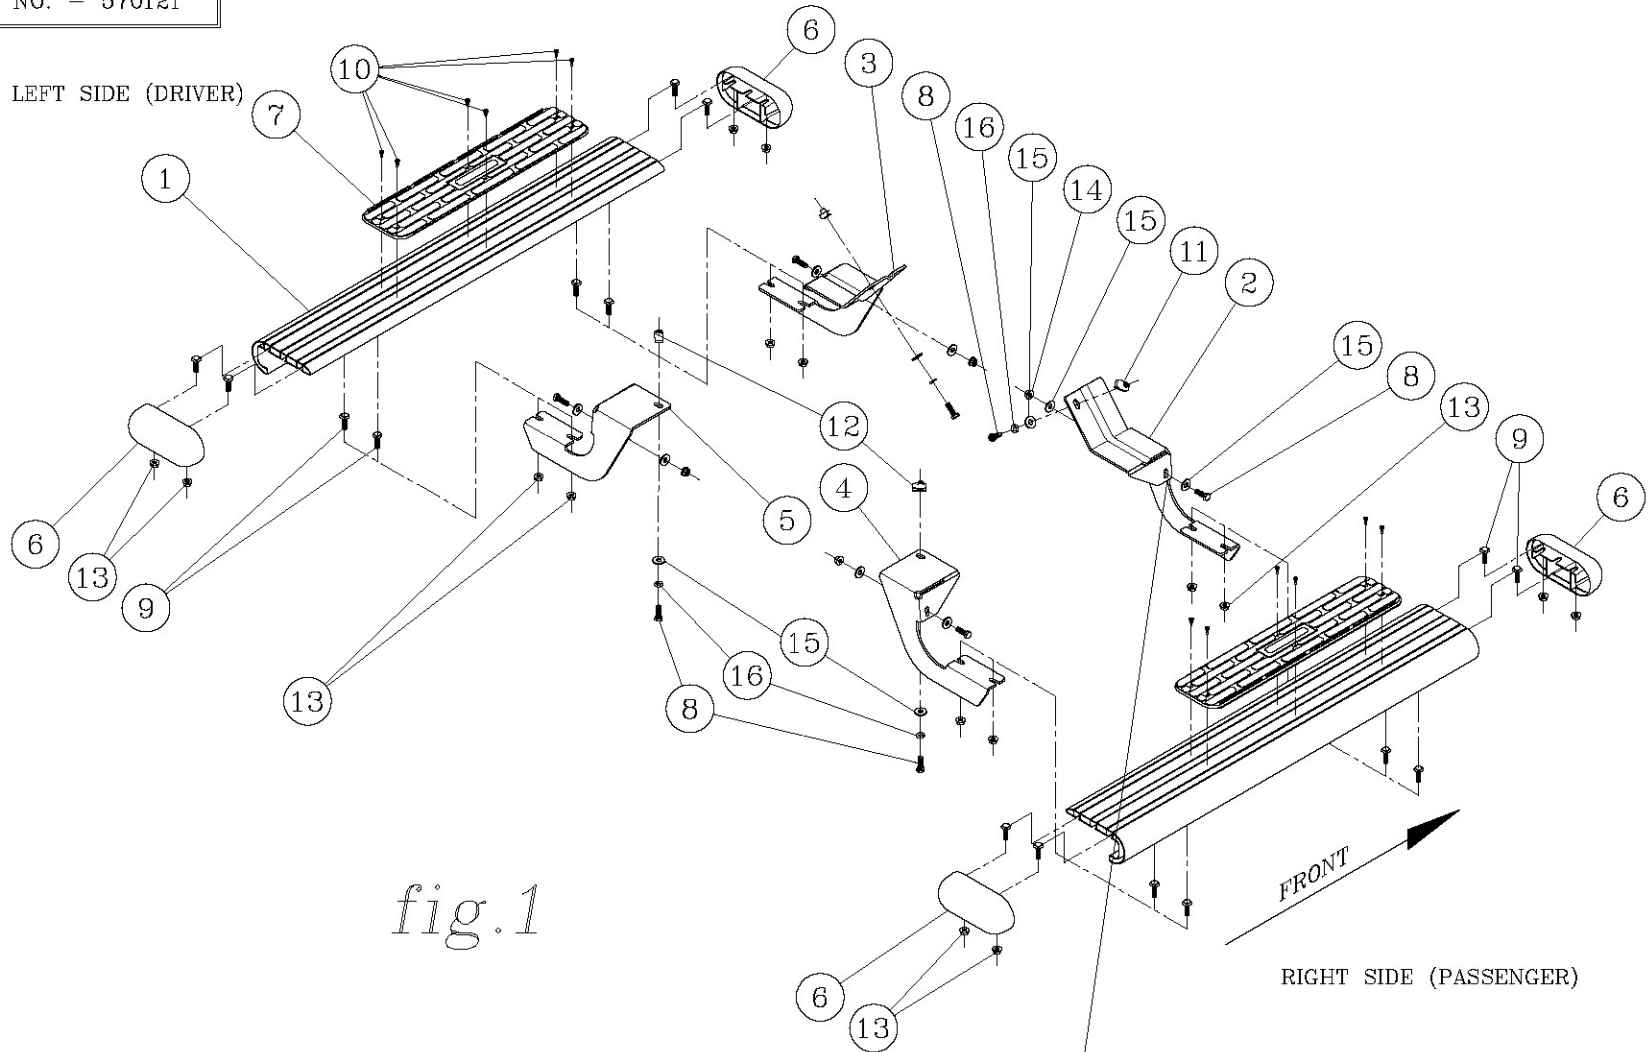

fig.1
3. INSTALL THE MOUNTING BRACKETS (ITEMS #2 & #4) USING THE 5/16-18 X 1" HEX BOLTS (ITEM #8), 5/16" FLAT WASHERS (ITEM #15) AND 5/16" LOCK WASHERS (ITEM #16) AS SHOWN IN *fig. 1*. INTO THE MULTI THREAD U-NUTS. FINGER TIGHTEN ONLY AT THIS TIME.
4. INSTALL THE 5/16-18 X 1" HEX BOLTS (ITEM #8), 5/16" FLAT WASHERS (ITEM #15) AND BLACK PLATED 5/16" SERRATED FLANGE NUTS (ITEM #14) THROUGH THE HOLES IN THE LOWER PINCH WELD AND THE BRACKET AS SHOWN IN *fig 1*. FINGER TIGHTEN ONLY AT THIS TIME. **(NOTE: IF YOUR VEHICLE DOES NOT HAVE HOLES IN THE PINCH WELD THEY WILL HAVE TO BE DRILLED. MAKE SURE THE BRACKETS ARE TIGHT AGAINST THE BODY PANELS, AND USING THE HOLE IN THE BRACKETS AS A GUIDE, DRILL AN Ø11/32" HOLE THROUGH THE PINCH WELD AT EACH BRACKET.)**